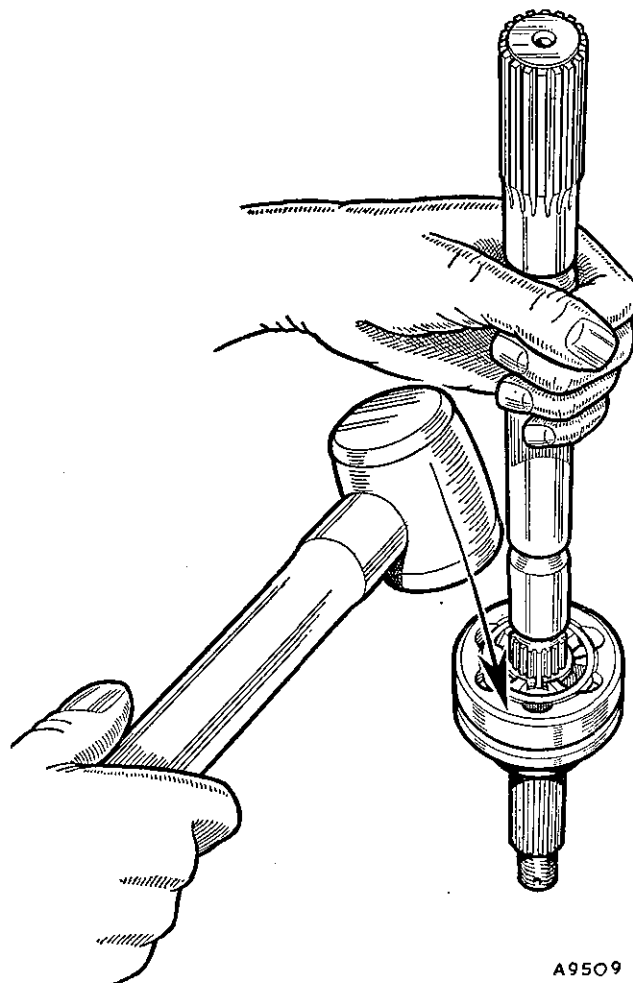

Fig. G.1
- (1) Clean the shaft of road dirt and grease and mount the shaft centrally in a vice fitted with soft jaws.
- (2) Prise off the boot and housing seal clips or cut the soft iron wire, turn back the housing seal and slide off the joint flange. Remove the housing seal and the rubber boot, if they are worn or damaged replacements must be fitted on reassembly.
- (3) The bell joint can only be dismantled after removal of the shaft; a round-section spring ring located in a deep groove in the extreme end of the shaft is expanded into the chamfered end of the inner race bore, and for shaft removal this must be contracted into the groove.
- (4) Hold the shaft and joint vertically, the bell joint downwards, and give the edge of the outer race a sharp tap with a soft faced mallet (see Fig. G.1). This should contract the spring ring so that the joint can be drawn off the shaft. It should not be necessary to use heavy blows for this operation.